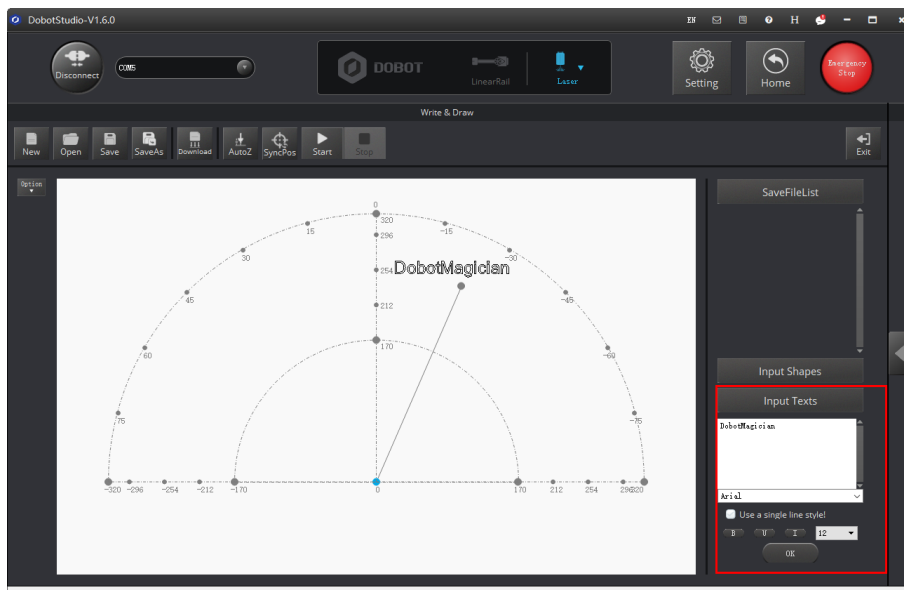

Figure 5.72 Input text
- Click **Input Texts** on the **Write & Draw** page to input texts, and set its style, and then click **OK** to display the text on the annular area, as shown in Figure 5.72.